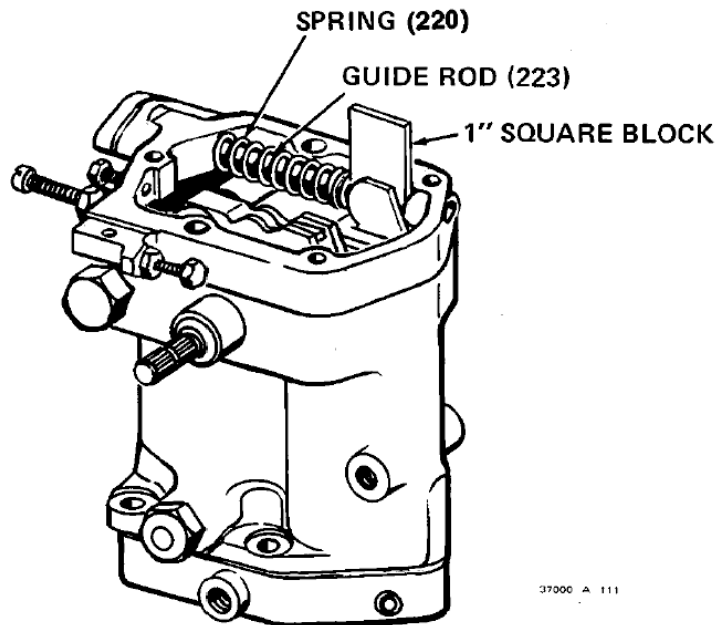

Figure 5-21. Sub Cap Removal
When disassembling the sub cap with a horizontal return spring, pry the wing on the terminal lever, with a small screwdriver, away from the sub cap housing. See Figure 5-21. Place a 1" (25 mm) square by 1/8" (3 mm) thick piece of metal, on top of the guide rod (223) between the spring seat (221, Figure 5-22) and the sub cap housing. This releases the spring force on the terminal lever. Remove the screws (215, Figure 5-22) and lift off the complete sub cap assembly.